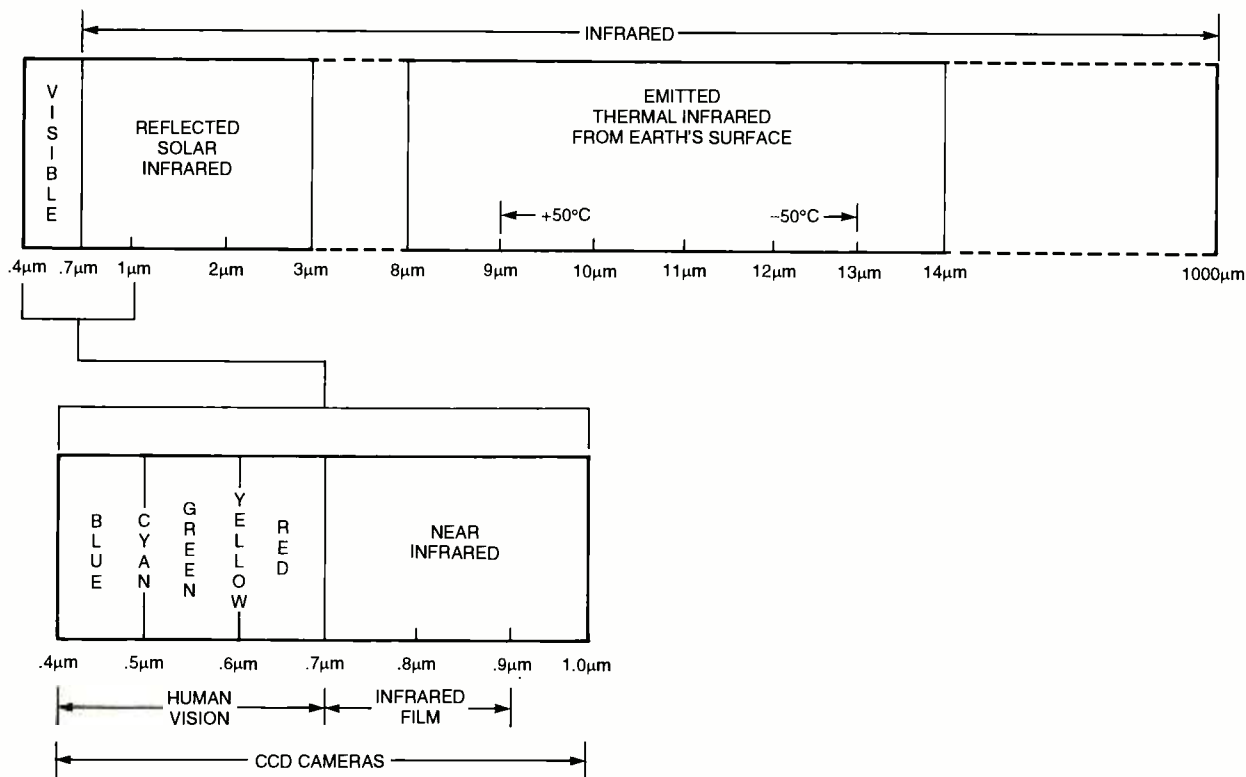

Fig. 1. The above chart illustrates the wavelengths of infrared light. Notice how CCD-cameras are sensitive to both visible and partial infrared sources.
**Infrared Video Viewer.** About 44% of the radiation emitted from the sun and arriving at the surface of the earth is in the visible part of the spectrum and is comprised of wavelengths of light from  $.4 \mu\text{m}$  through  $.7 \mu\text{m}$  (see Fig. 1). About 37% of the emitted solar radiation entering our atmosphere and also arriving at the earth's surface is the invisible infrared radiation slightly longer in wavelength than red visible radiation (beyond  $.7 \mu\text{m}$ ), but considerably shorter in wavelength than the emitted thermal infrared radiation normally associated with the varying earth's surface temperatures in wavelengths roughly ranging from  $9 \mu\text{m}$  through  $13 \mu\text{m}$ .
Figure 1 shows the internal components of the chip